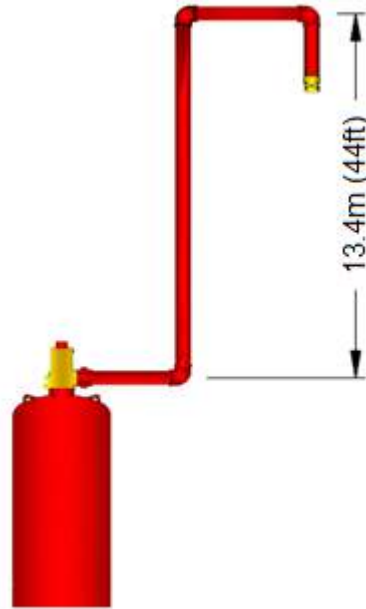

Figure 34 Nozzles Located Above the Cylinder Outlet
- In the event that the discharge nozzles located above the cylinder outlet, the maximum elevation difference between the cylinder outlet and the farthest horizontal pipe run or discharge nozzle (which is furthest) shall not exceed 13.4 m (44ft). Refer to Figure 34.